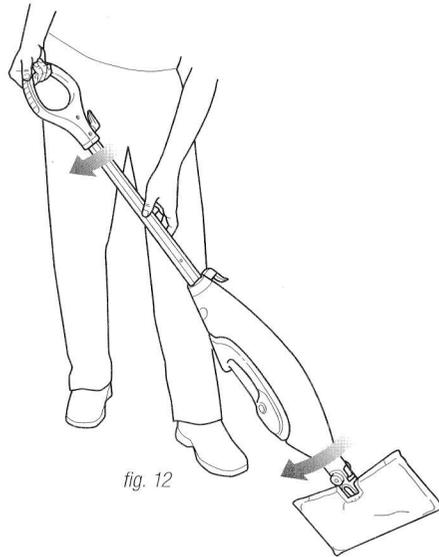

fig. 12
- 5 When one side of the cleaning pocket gets dirty, just flip the mop and you can quickly start using the other side. Use the shaggy side of the cleaning pockets to lift up and lock away all the dirt and debris and the scrubbing side to break up the tough stains. (fig. 12)